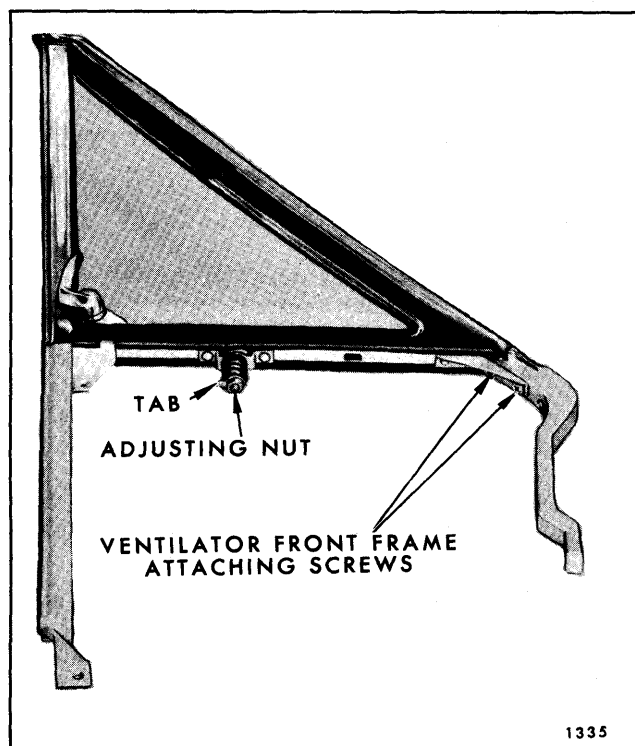

Fig. 6-66—Front Door Ventilator Assembly - "X & Z" Styles
3. The effort required to open or close the ventilator can be set by straightening retaining washer tab and tightening or loosening the adjusting nut. Tightening increases effort and loosening decreases effort. When desired adjustment has been obtained, bend down washer tab to lock nut in position (See Fig. 6-66).
3. Remove two attaching screws securing ventilator casting to frame and separate ventilator casting from frame so that the ventilator weatherstrips can be removed (Fig. 6-66).